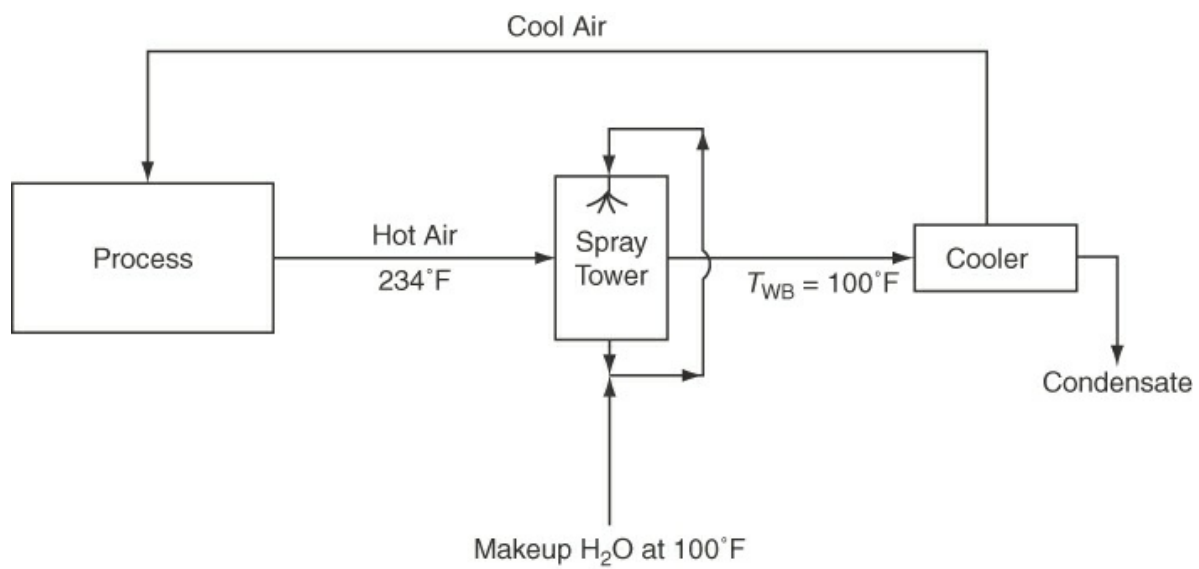

Figure P10.3.9
****10.3.9** Air is used for cooling purposes in a plant process. The scheme shown in Figure P10.3.9 has been proposed as a way to cool the air and continuously reuse it. In the process, the air is heated and its water content remains constant. It is estimated that the air leaving the process will be at 234°F regardless of the entering temperature or the throughput rate. The air must remove 425,000 Btu/hr from the process. Water for the spray tower is available at 100°F. This tower operates adiabatically with the air leaving saturated. Determine the following: (a) the wet-bulb temperature and percent relative humidity of the air leaving the process; (b) the temperature and dew point of the air leaving the cooler; (c) the psychrometric chart for this cycle; (d) the air circulation rate needed in pounds bone-dry air (BDA) per hour.